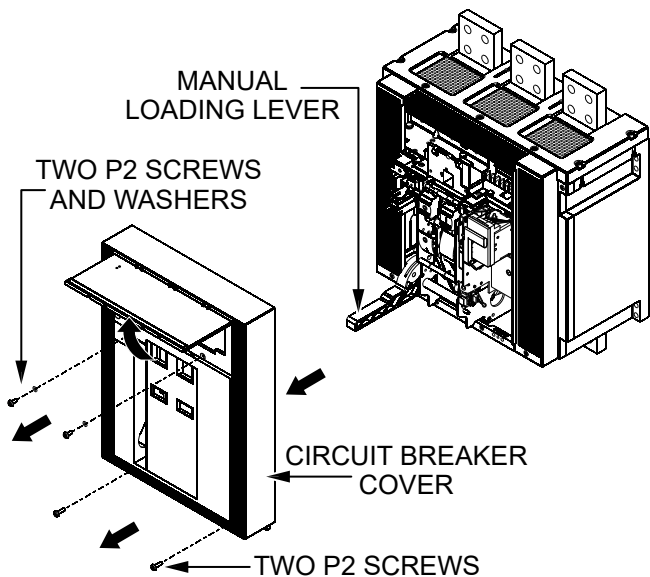

Figure 14. Remove Circuit Breaker Cover
- Lift the clear panel cover on the front of the main circuit breaker, and use a P2 pentalobe screwdriver to remove the **two P2 screws and washers** shown in Figure 14. Set the hardware aside for later.
- Remove the **two P2 screws** (Figure 14) located at the bottom of the circuit breaker. Set the screws aside for later.
- Pull down gently on the **manual loading lever** (Figure 14) and remove the **circuit breaker cover**.